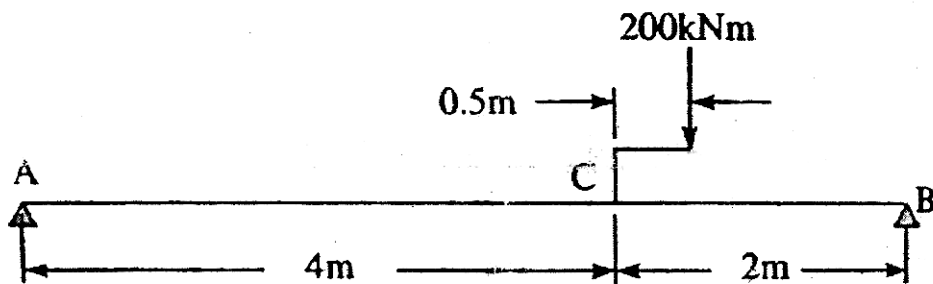

Fig. 4
- (b) Find the deflection at C for the beam loaded as shown in Fig. 4. Take $EI = 40,000 \text{ kNm}^2$. [6]